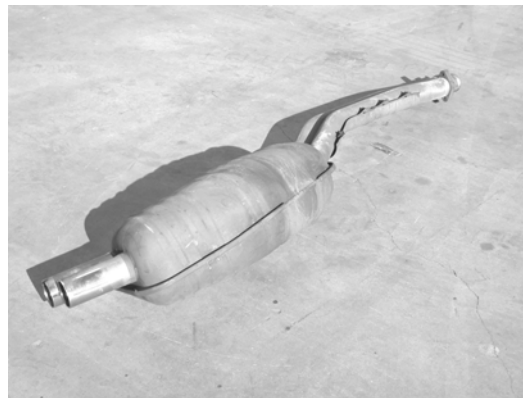

Figure 2
4. Finally, remove the exhaust system shown in figure 2 from your vehicle.